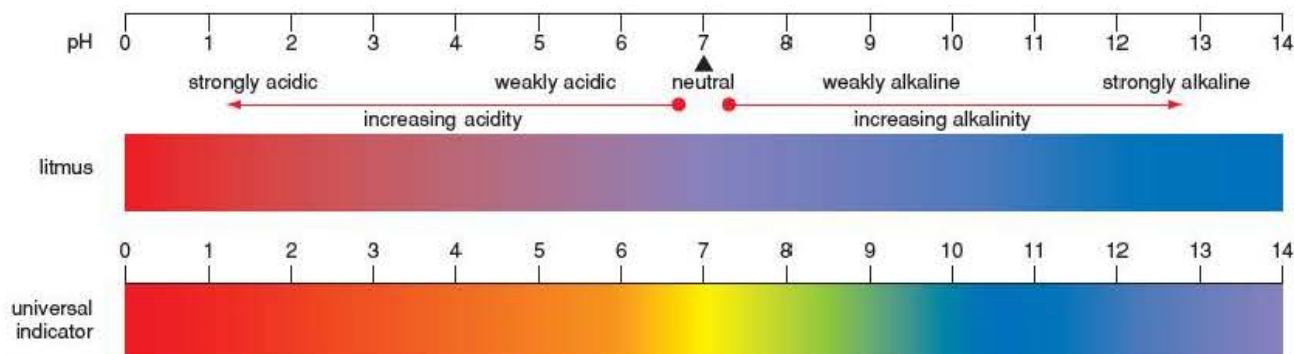

Figure 1.2 The colours of litmus and universal indicator with solutions of different pH.
- Acidic solutions turn litmus red and give an orange or red colour with universal indicator (Figure 1.2).
Using universal indicator, it is possible to measure the approximate pH values of solutions. From these pH values, solutions can be classified as strongly acidic, weakly acidic, neutral, weakly alkaline or strongly alkaline (Figure 1.2). For example, battery acid containing sulfuric acid is strongly acidic, lemon juice containing ethanoic (acetic) acid is weakly acidic, water is neutral, and drain cleaner containing sodium hydroxide is strongly alkaline.